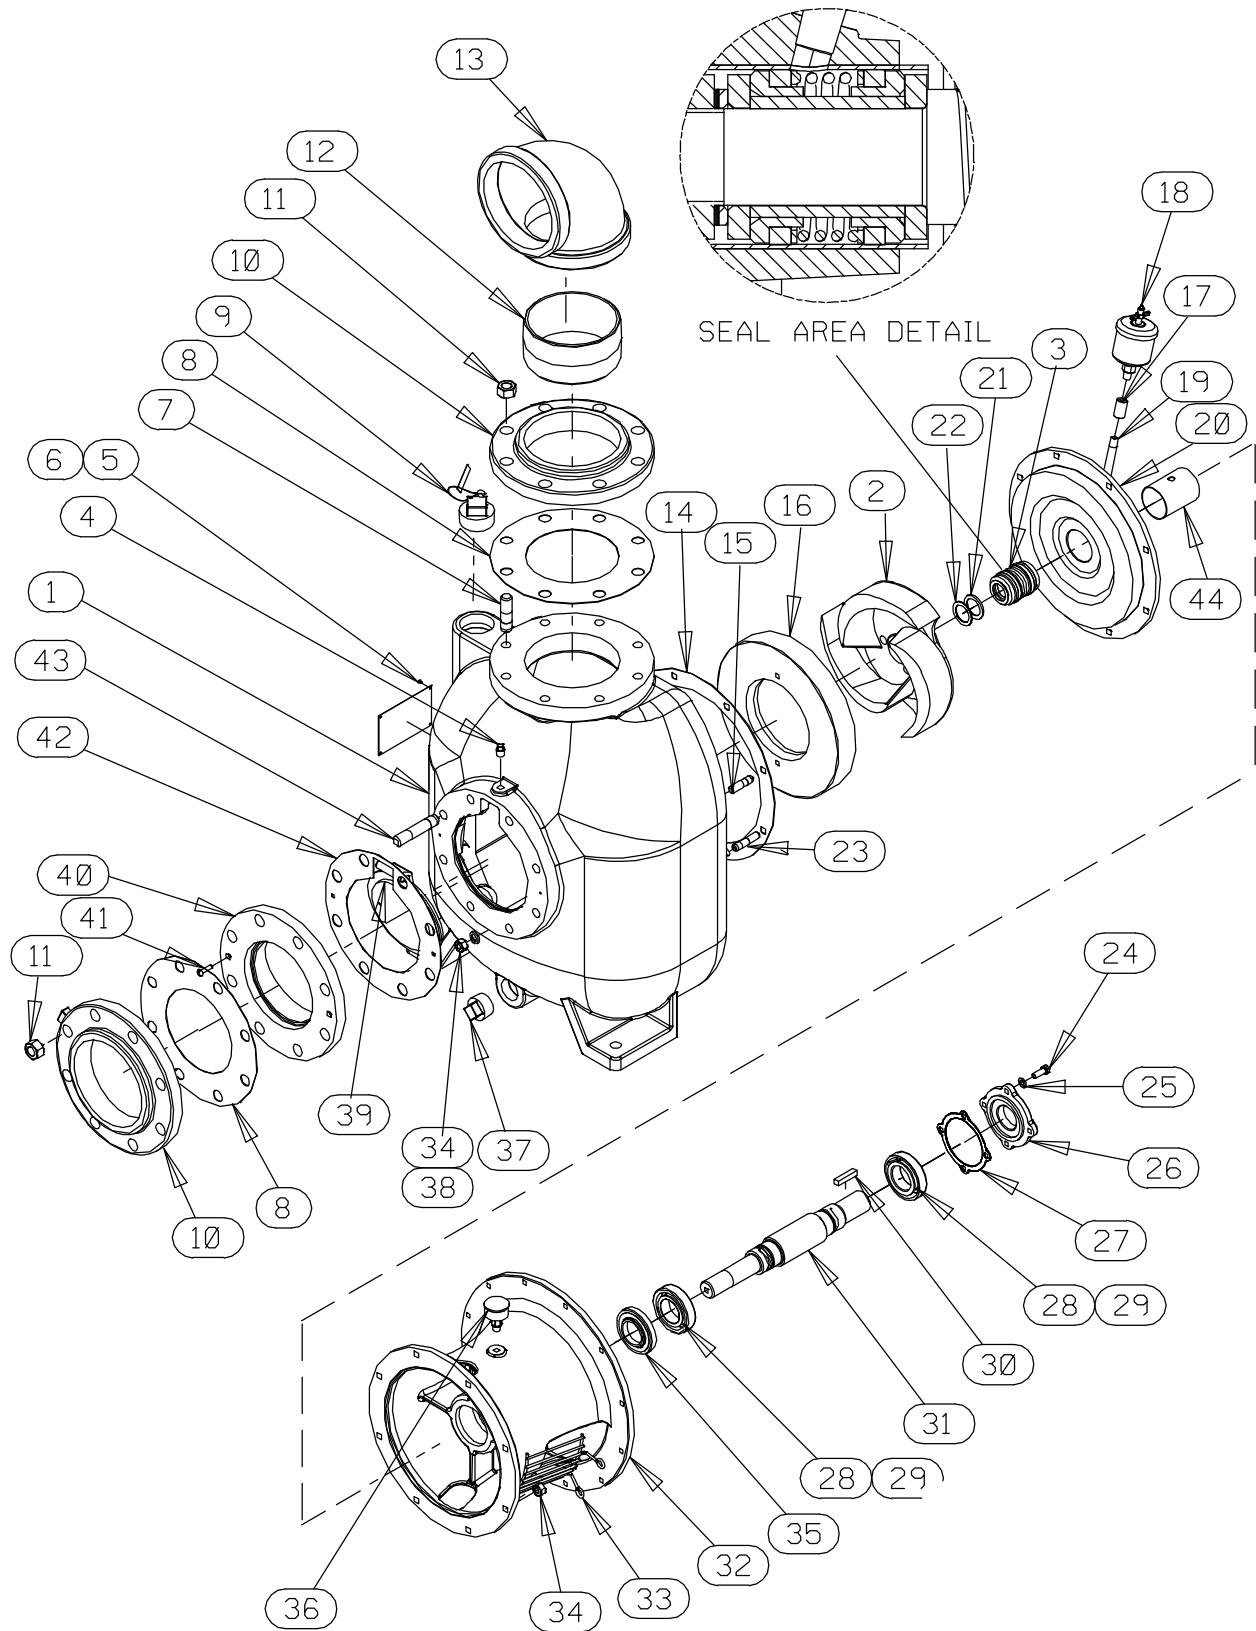

Figure 3. 86A2-(SAE 4/10) Pump End Assembly
Disengage the hardware (6 and 7) securing the drive assembly to the intermediate and remove the intermediate guards (33, Figure 3). Separate the pump end and drive assembly from the engine by pulling the pump end straight away from the engine.
As the assemblies separate, the flexible portion of the coupling assembly (3) will remain on the shaft. To remove the coupling from the shaft, unscrew the two allen head setscrews from the bushing (2). Screw one of the setscrews into the puller hole on the circumference of the bushing. As the coupling and bushing separate, remove the bushing, and slide the coupling off the shaft. Remove the shaft key (30, Figure 3).
(Figures 3 and 5)
(Figure 3)